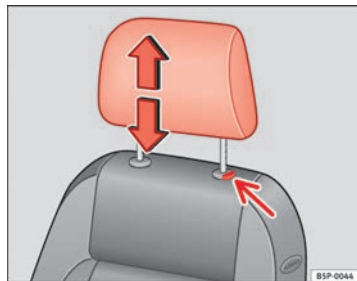

Fig. 70 Adjusting and removing the head restraints
- Press the button ⇒ Fig. 70 (arrow).